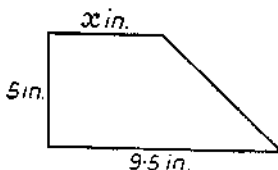

Fig. 56
(4) Calculate the dimension  $x$  in the trapezium shown in fig. 56 if the area of cross-section is  $35 \text{ in.}^2$